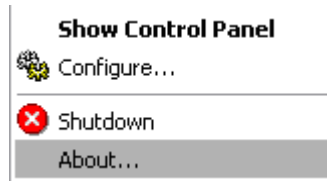

Figure 12 - Tool Tray Menu
2. The **Tool Tray Menu** appears (Figure 12).